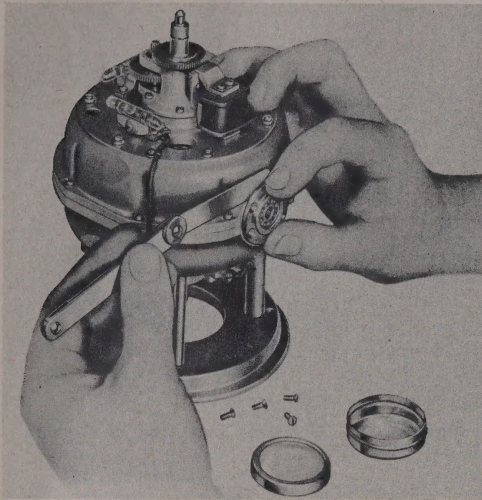

Figure 200 — Determining Shim Thickness for Locked Bearing
1. Shims (9) are added between the outer bearing race and case (8) until a .0015-inch feeler gage can just be inserted between the case and the flange of the socket, when socket with bearing installed is held firmly in place. (See figure 200.)